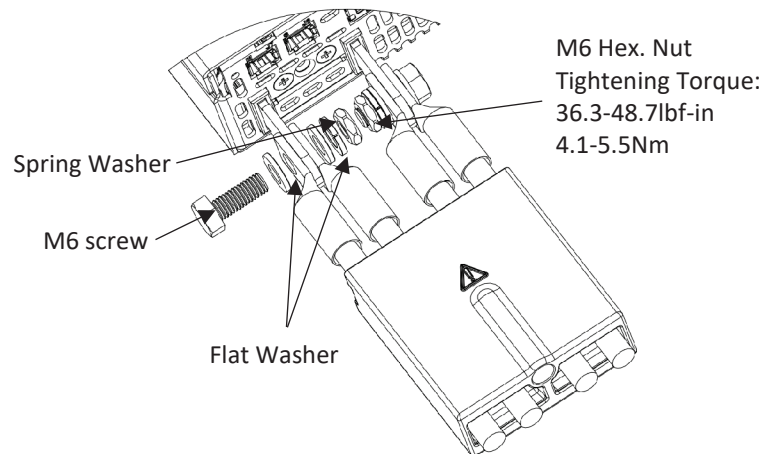

Figure 4-45: 10V Model Wires Assembly
3. Fix the wires to the Bus bars as shown in Figure 4-45.